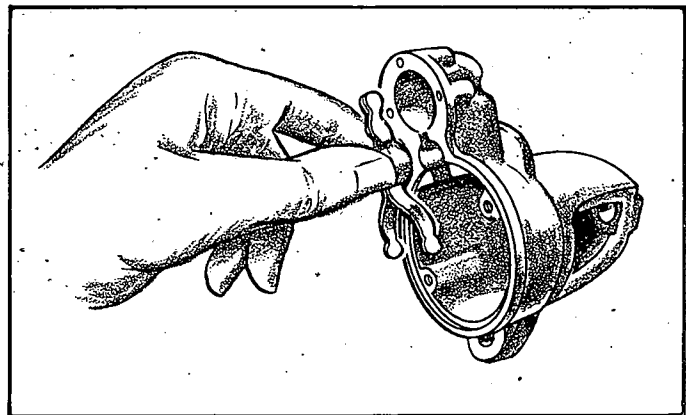

FIGURE 33. INSTALLING SHIFT LEVER
6. Insert the shift lever as shown in Figure 33 into the front bracket.